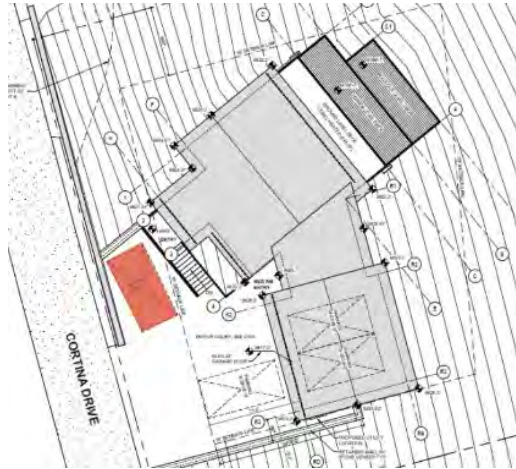

Figure 2: Exterior Parking Setback Encroachment
- *Exterior Parking: One of the exterior parking spaces is located entirely in the lot setback as shown on sheet A1.2 of Exhibit A and highlighted in red in Figure 2.*